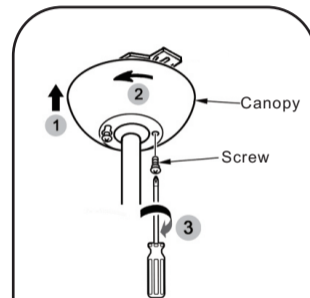

Fig.18
Step 2. Slide the canopy up towards the hanger bracket and place the key hole on the canopy over the screw on the hanger bracket, turn canopy until it locks in place at the narrow section of the key holes. (Fig. 18)
Step 3. Align the circular hole on canopy with the remaining hole on the hanger bracket, secure by tightening the two set screws. (Fig. 18)